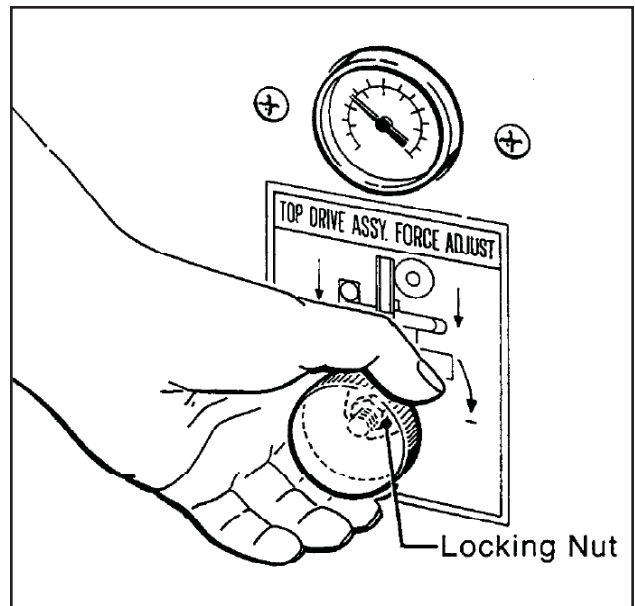

Figure 7-16 – Air Regulator/Gauge, Top Drive Assembly
**7. Air Pressure Regulator/Gauge, Top Drive Assembly Force Adjustment – Figure 7-16**
For boxes which are fully packed with products that support the top flaps, the adjustment of this regulator is not critical since the boxes can support the pressure of the upper frame (drive belts) at a wide range of regulator settings. However, if under-filled or fragile boxes are sealed, this regulator can be used to set the upper frame pressure to a minimum that is still adequate to positively convey the box and to prevent damage of boxes. The regulator setting can be locked by securing the lock nut on the regulator shaft as shown in **Figure 7-16**.